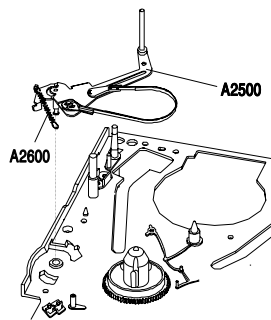

Fig. 15
- Detach the spring (Pos. A2600, Fig. 15) from the mechanism chassis.
- Insert the tension arm (Pos. A2500) and attach the spring (Pos. A2600, Fig. 15).